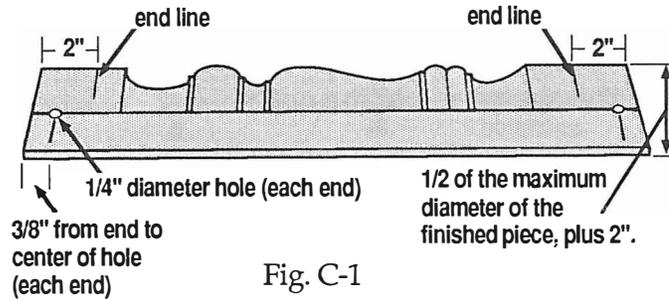
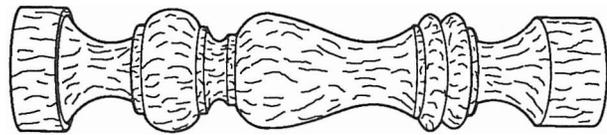
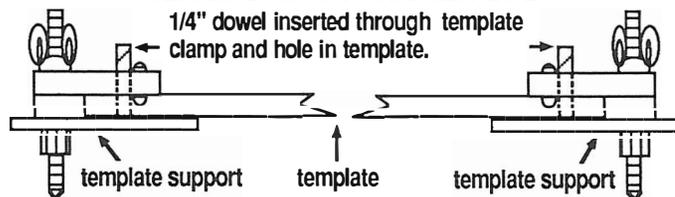

Fig. C-1
Fig. C-2
Fig. C-5
- For **spindle turning**, use either a flat template, shown in Fig. C-1, or an original spindle, illustrated in Fig. C-2.
To help achieve proper template alignment, drill two 1/4" diameter holes on the center line, 3/8" from each end of a spindle template. And drill one 1/4" diameter hole on the center line, 3/8" from the edge of a faceplate template. See Figs. C-1 and C-3. A 1/4" dowel placed through the hole(s) in the template clamp(s) and into the template hole(s) will align the template exactly, as indicated in Fig. C-5.